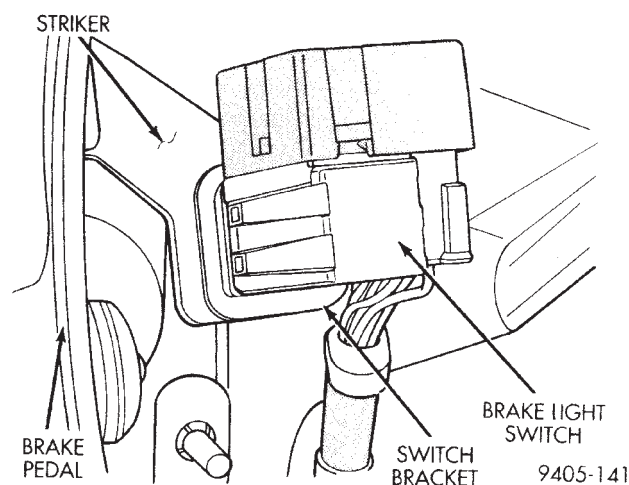

Fig. 155 Stop Lamp Switch
(1) Depress and hold the brake pedal while rotating stop lamp switch (Fig. 155) in a counter-clockwise direction approximately 30 degrees.
(2) Pull the switch rearward and remove from its mounting bracket.
(3) Disconnect wiring harness connector from stop lamp switch.
CAUTION: Do not use excessive force when pulling back on brake pedal to adjust the stop lamp switch. If too much force is used, damage to the stop lamp switch or striker (Fig. 155) can result.